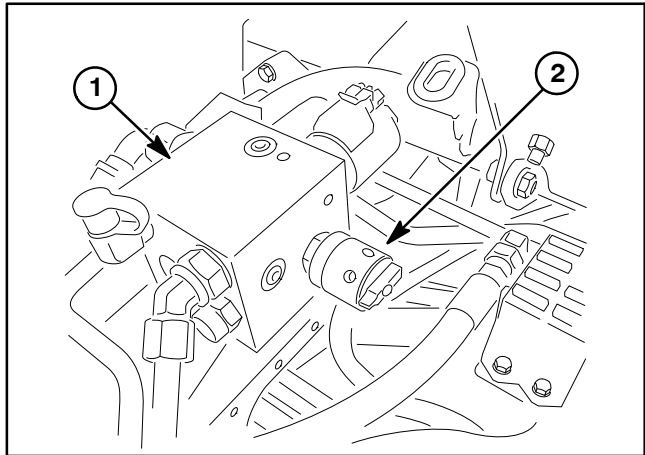

Figure 13
3. Locate the reel speed control and backlap lever on the hydraulic mow manifold (Figs. 13 and 14). Rotate the reel speed control to position "1" and the backlap lever to the R (backlap) position.